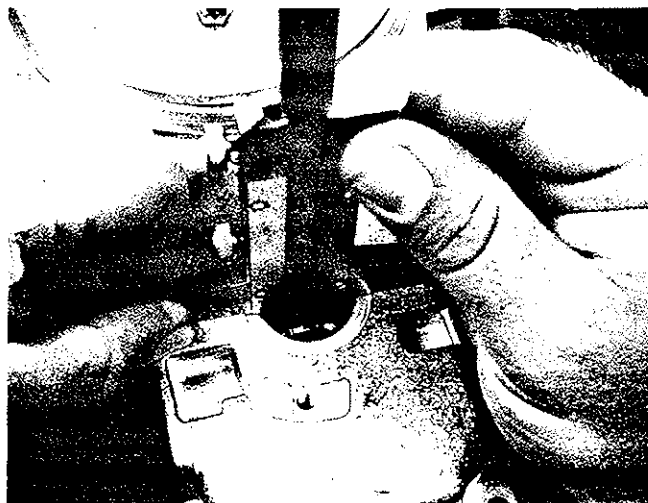

Fig. 3-11. Checking basic position of updraft air-flow sensor.
If basic position is incorrect, remove the fuel distributor and use a gauge to check the distance between the seating surface and the roller on the sensor-plate arm that lifts the plunger. See Fig. 3-11. Typical distance is $21.2 \pm 0.1\text{mm}$ ($0.833 \pm 0.004\text{ in.}$). If this is wrong, you may be able to correct the basic position by adjusting the mixture screw on the arm. Check and adjust the mixture (CO) after you have turned this screw. If CO cannot be brought into specification, or if you have problems with starting or driveability, you will have to adjust the plunger seal clearance as described below.